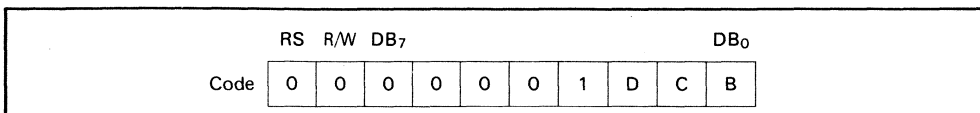

Figure 15. Display On/Off Control Instruction
**D**: The display is on when D = 1 and off when D = 0 (figure 15). When off due to D = 0, display data remains in the DD RAM. It can be displayed immediately by setting D = 1.
**B:** The character indicated by the cursor blinks when B = 1. The blink is displayed by switching between all blank dots and display characters at 409.6 ms intervals when fcp or fosc = 250 kHz (figure 15). The cursor and the blink can be set to display simultaneously. (The blink time changes according to the reciprocal of fcp or fosc. For example,  $409.6 \times \frac{250}{270} = 379.2$  ms when fcp = 270 kHz.)